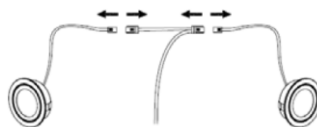

Fig. 4.2
- Disconnect the connector as illustrated in (Fig. 4.2).